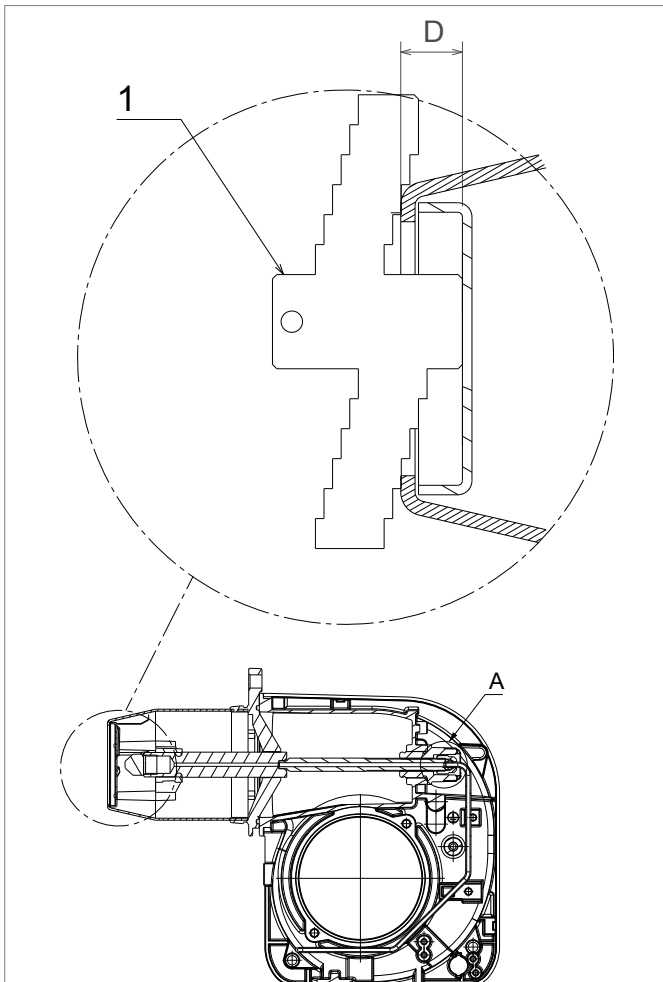

**Figure 10-4:** Ignition electrode settings
6. Check/adjust electrode setting. Refer to Figure 10-4.